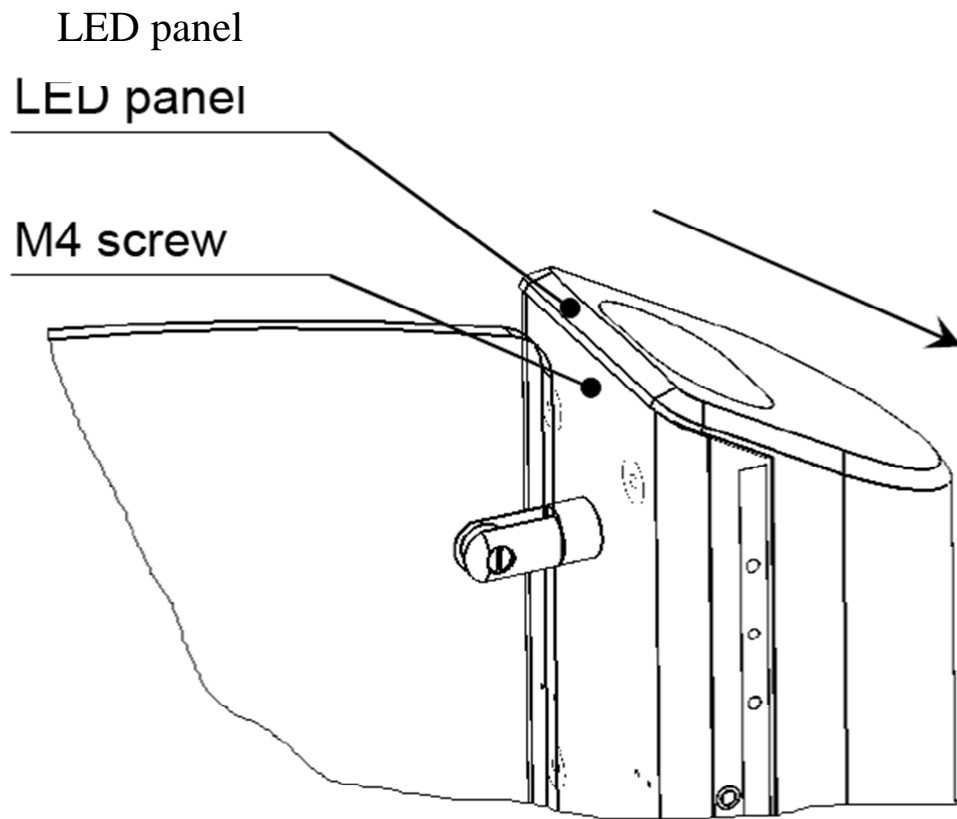

Fig. 15
6.5.1. Undo the M4 screw at the rear of the card collector (Fig. 15)
6.5.2. Slide the LED panel to the stop in the direction indicated in Fig. 15. Carefully lift the panel.